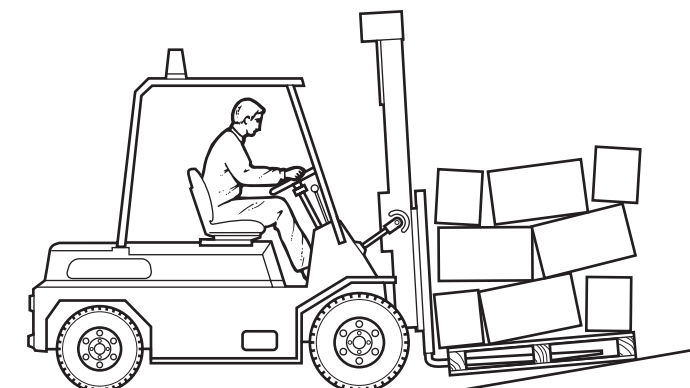

**Figure 1** Storage of pallets in racking. The span between the vertical beams of the drive-in-racking must be compatible with the design of pallet
- The dimension span between vertical beams of the drive-in-racking, as this must be compatible with the design of the pallet. Pallet support beams must be wide enough to support a pallet positioned off-centre and close to one side of the rack opening. See Figure 1 (on page 5) for details
The use of pallets with racking (see Figure 1) can reduce the compression hazard to the load, but can cause additional stresses on the pallet. Loaded pallets should not be stored in racking unless they are suitably designed and constructed for the type of racking concerned.